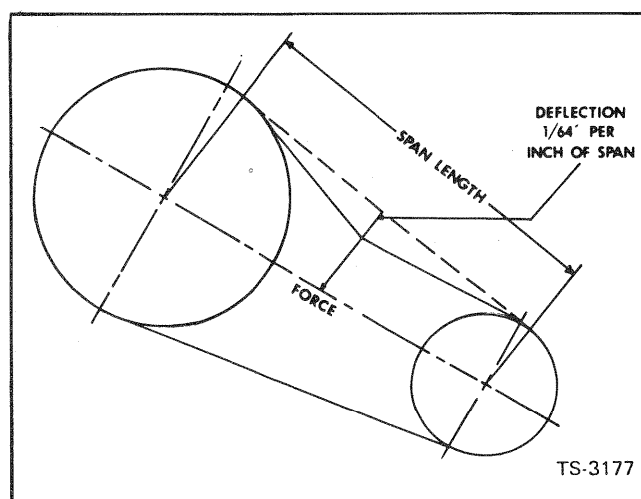

Fig. 4-1 Check Belt Tension
2. At the center of the span, apply a force with a spring scale (at right angles to the span) large enough to deflect the belt 1/64 of an inch per inch of span. Fig. 4-1